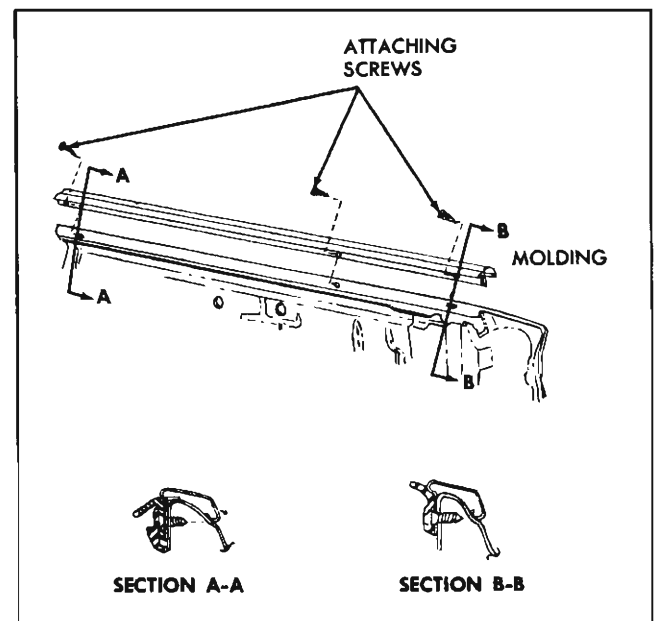
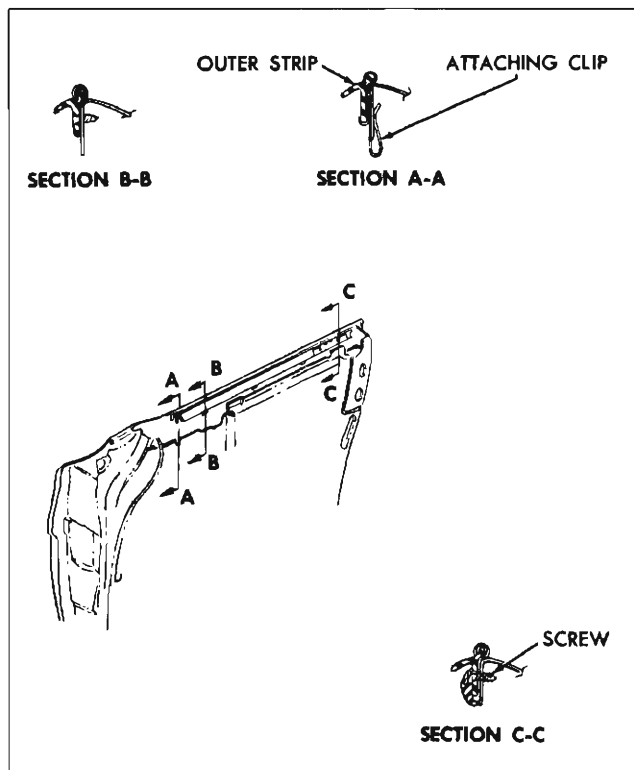

Fig. 11—Door Window Glass Run Channel Outer Strip Assemblies (With Belt Reveal Molding)
Fig. 12—Door Window Glass Run Channel Outer Strip Assemblies (Without Belt Reveal Molding)
4. Remove all outer strip assembly attaching screws (three screws on styles equipped with a belt reveal molding and two screws on all other styles). See Figure 11 for styles with a belt reveal molding and Figure 12 for all other styles.